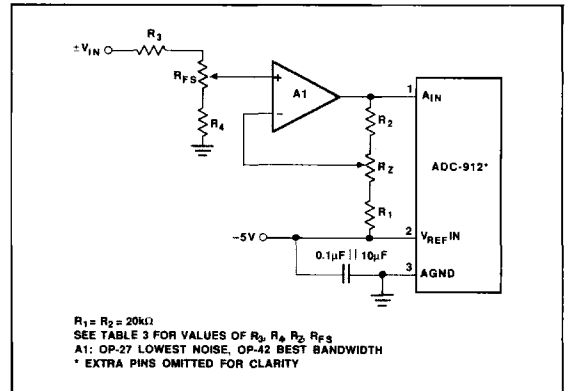
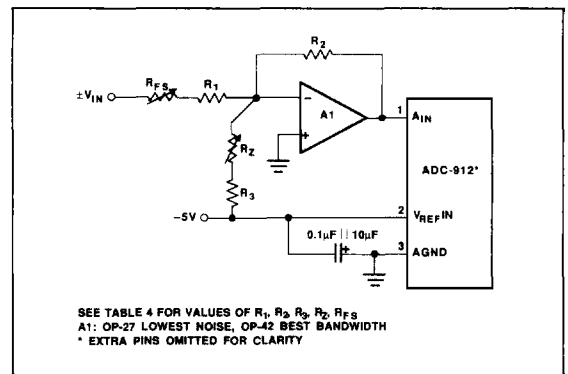
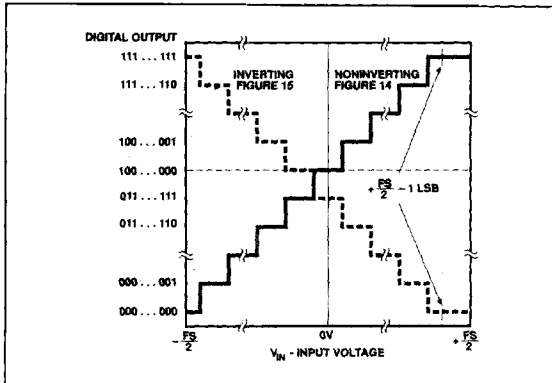

FIGURE 14: Noninverting Bipolar Analog Input Operation
FIGURE 15: Inverting Bipolar Analog Input Operation
FIGURE 16: Ideal Input/Output Transfer Characteristics for Bipolar Input Circuits
Bipolar analog input operation is achieved with an external amplifier providing an analog offset. Figures 14 and 15 show two circuit topologies that result in different digital-output coding. In Figure 14, offset binary coding is produced when the external amplifier is connected in the noninverting mode. In Figure 15, complementary-offset binary coding is produced when the external amplifier is connected in the inverting mode. Figure 16 shows the ideal transfer characteristics for both the inverting and noninverting configurations given in Figures 14 and 15.
The scaling resistors chosen in bipolar applications should be the same type from the same manufacturer to obtain good performance over temperature. When potentiometers are used for absolute adjustment, 0.1% tolerance resistors should still be used as shown in Figures 14 and 15 to minimize temperature coefficient errors.
Calibration of the bipolar analog input circuits (Figures 14 and 15) should begin with zero adjustment first. Apply a +1/2 LSB analog input to A_{IN}, (see Tables 3 and 4) and adjust R_Z until the successive digital output codes flicker between the following codes:
- For noninverting, Figure 14 1000 0000 0000
- For inverting, Figure 15 0111 1111 1111
- For noninverting, Figure 14 1111 1111 1110
- For inverting, Figure 15 0000 0000 0001
TABLE 3: Resistor and Potentiometer Values Required for Figure 14
TABLE 4: Resistor and Potentiometer Values Required for Figure 15